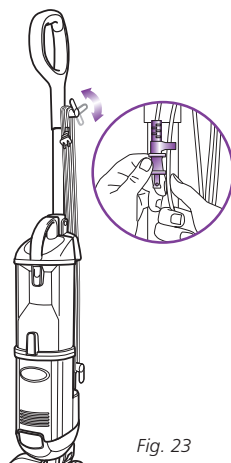

Fig. 23
- 4 Wrap cord around cord holders and secure plug. Store cleaning unit in an upright position. (Fig. 23)